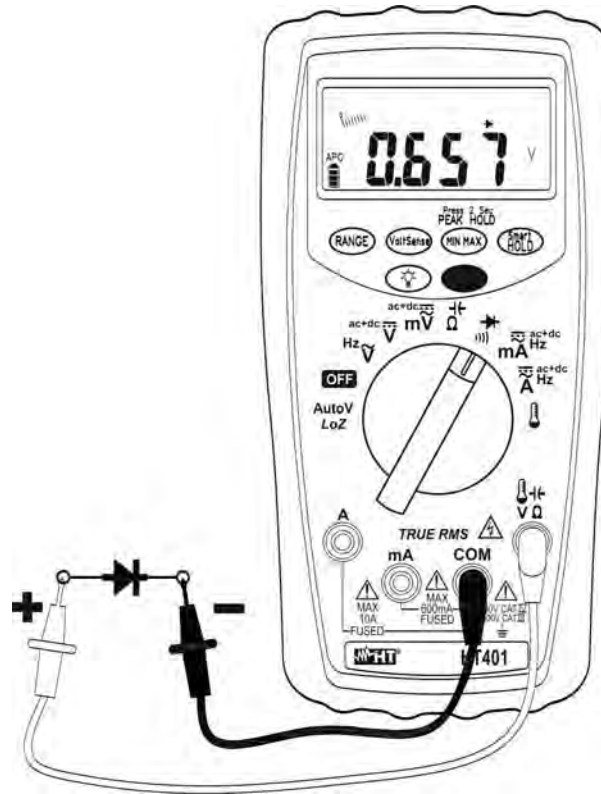

Fig. 8: Diode and continuity test
4. Connect the red lead to the anode and the black lead to the cathode of the diode (see Fig. 8). The instrument's display shows the direct polarization voltage. This voltage is typically 0.4 ~ 0.9V with good junctions.